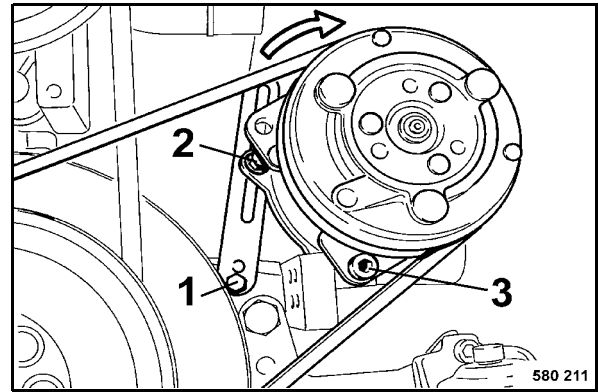

Fig. 135
- Slightly slacken fastening screws 1, 2 and 3 (Fig. 135).